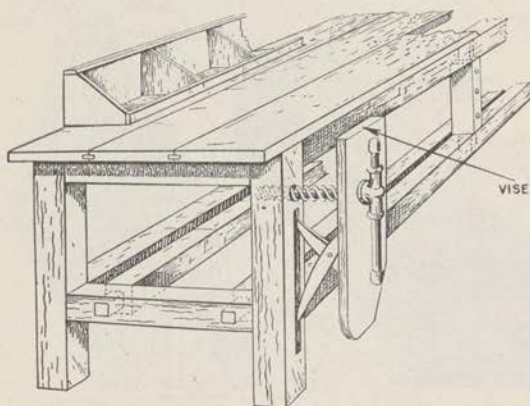
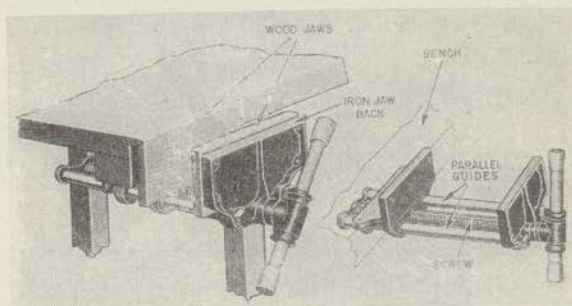

FIGURE 6.—Carpenter's bench.
FIGURE 7.—Carpenter's vise.
6. Bench.—For woodworking by hand, a suitable work bench is an absolute necessity. Most people find a top surface about 27 inches wide and 34 inches above the floor to be convenient, but one should use a bench with these dimensions modified to give a comfortable position for the particular work being done. The length depends on the space available and the size of the work. The surface should be made of flat, thick planking, scraped and then shellacked or oiled to increase its life, and the entire bench well braced to support the work firmly. Such a bench is illustrated in figure 6.
a. Vise.—The bench should be equipped with a vise similar to that shown in figure 6 or figure 7, at the left end of the bench and preferably on the overhang, where it provides rigid support for sawing off boards just beyond the end of the bench. Drawers, bins, or pigeon-